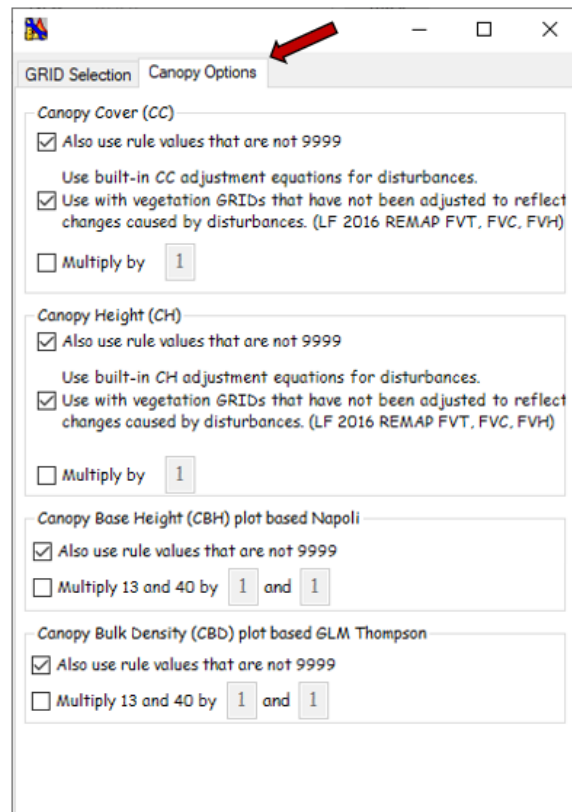

Figure 6-20. Complete the *Canopy Options* tab (optional).
- Click the **Canopy Option** tab to work with select canopy options if desired (Figure 6-20).